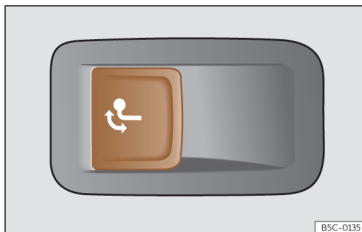

Fig. 203 Left side of the luggage compartment: button to unlock the tow hitch.
- Pull the >>> **Fig. 203** button briefly. The tow hook unlocks electrically and automatically turns outwards. The button's control lamp flashes.
• Pull the >>> **Fig. 203** button briefly. The tow hook unlocks electrically.
- Never press the button >>> **Fig. 203** when there is a trailer hooked to the vehicle or when a carrier system or other accessories are mounted on the tow hook.